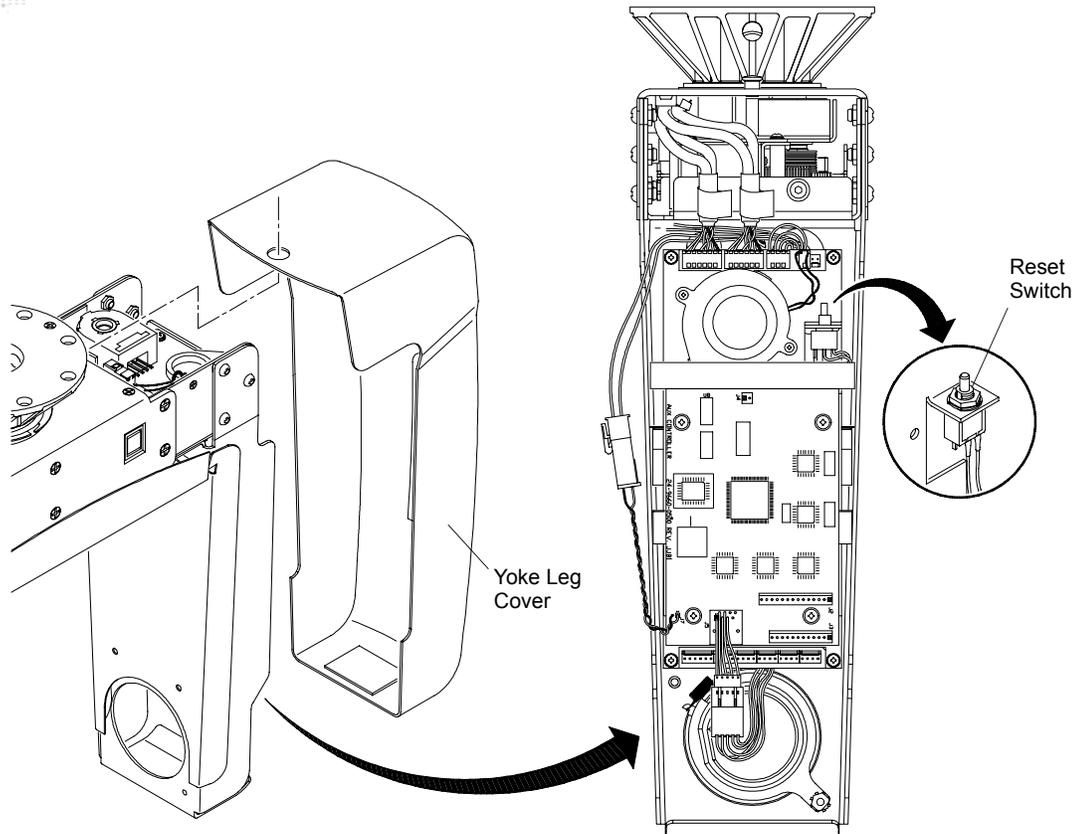

Figure 3-1: Accessing the Reset Switch
Step 1. Remove board-side yoke leg cover (**Figure 3-1**).